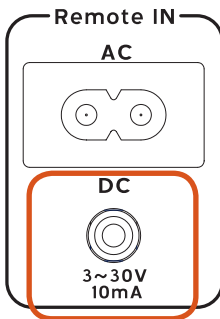

Fig. 4a
- A. Connect the Remote DC Control Cable (included) into the socket labeled “DC IN” on the rear panel of the Power Console. (Fig. 4a)